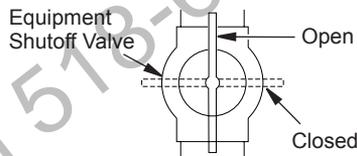

Figure 53 - Equipment Shutoff Valve
1. Close equipment shutoff valve (see Figure 53).
1. Open equipment shutoff valve (see Figure 53, page 29).